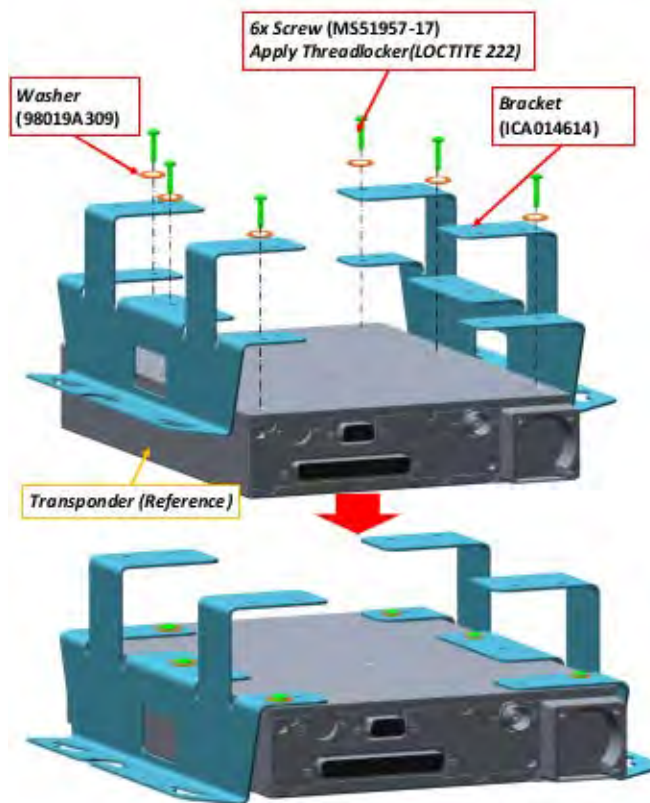

FIGURE 14-67
- d. Install Radio and Transponder brackets to transponder as shown using 6x screws (MS51957-17) and 6x washers (98019A309). (See Figure 14-67.)